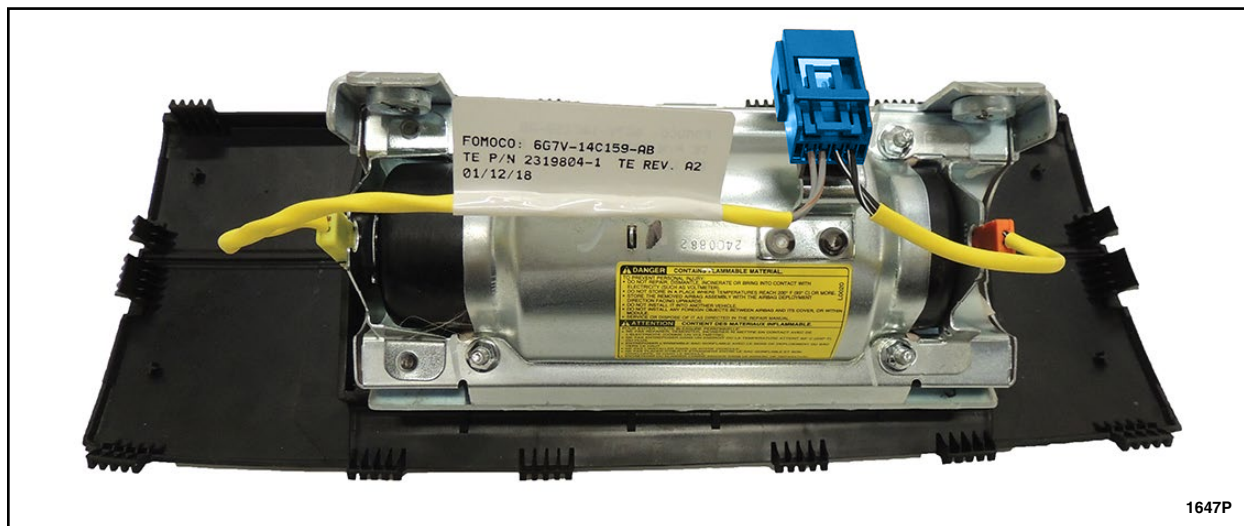

FIGURE 11
13. Align the T-shape index on both the wiring harness electrical connector and the airbag inflator. Install the *new* wiring harness onto the passenger airbag module and connect to both sides of the inflator. See Figure 11.